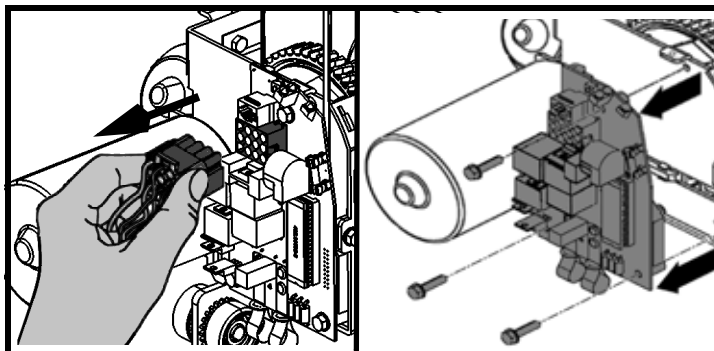

Fig. 10
- 2) Disconnect the main connector (see Fig. 10).
- 3) Unscrew the 3 hexagonal screws using of an 8 mm socket (5/16) (see Fig. 10).
- 2) Disconnect the Brake Board from the Main Circuit Connector (see Fig. 10_a).
- 6) Insert the new Brake Board into the Main Circuit (see Fig 10_b).
Figure 10_a
Figure 10_b